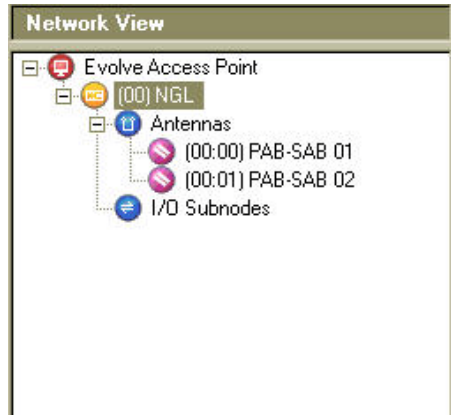

Figure 5.9 Network View of Antenna Settings
2. Navigate to the **Access** screen (shown in Figure 5.9), which describes the current settings for the antenna(s) in the group.